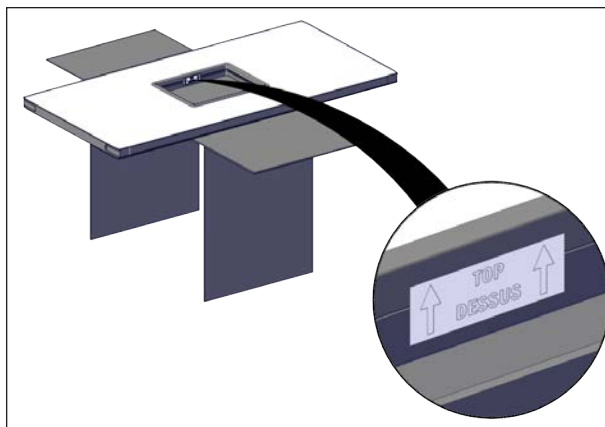

FIGURE 18: PANEL INSTALLATION
1. Install the center cover panel, with an opening in the center, on the mounting table, see Figure 18. Ensure the TOP/DESSUS label located in the panel hole is properly oriented.